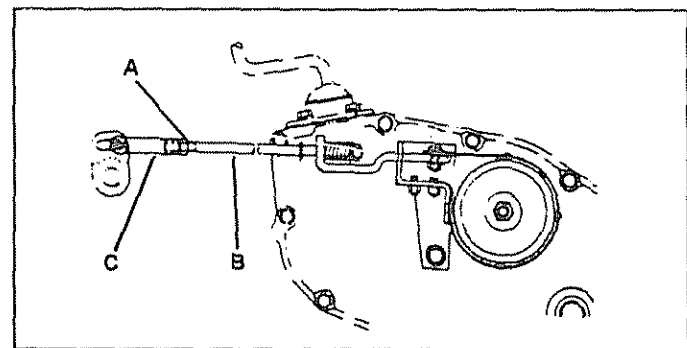

FIG. 36
- Remove four (4) hex washer head tapping screws from shift cover plate located on top of tractor frame. Remove the cover plate.
- Loosen jam nut (A) on brake rod (B) at clevis (C) (Fig. 36). If you find it difficult to loosen jam nut (A), remove cover plate in L.H. frame rail.
- Rotate brake rod (b) counterclockwise, turning brake rod out of clevis (c) four (4) to six (6) turns.
- Shut engine off. Rotate brake rod (B) clockwise by hand, turning brake rod into clevis (C) until tight. Tighten jam nut (A) on brake rod (B) at clevis (C).
- Reinstall shift cover plate and four (4) mounting screws. If cover plate in L.H. rail was removed it should be replaced.